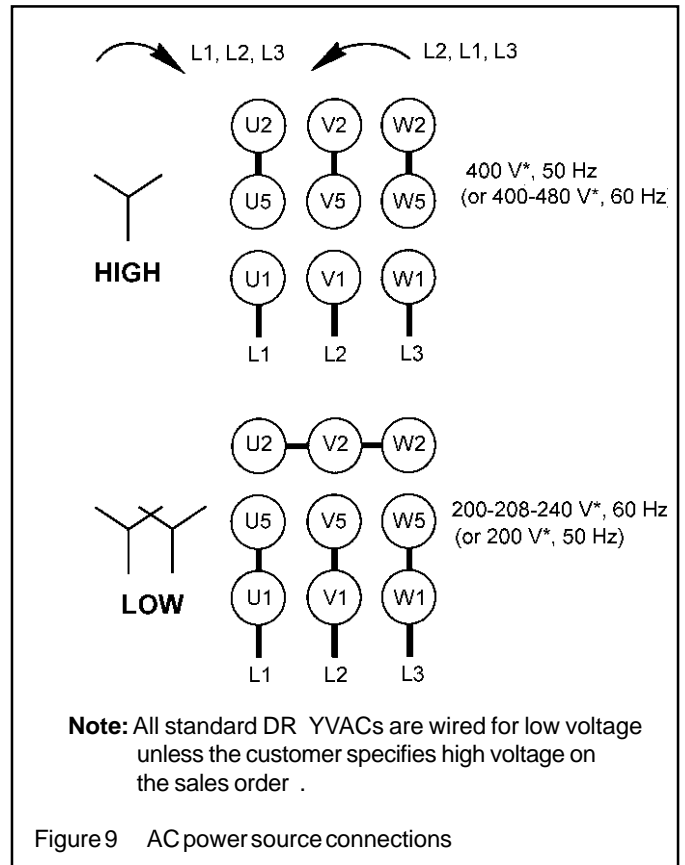

Figure 9 AC power source connections
2. Change the connections on the motor terminal block (Figure 9) to match the applied AC line voltage and frequency .